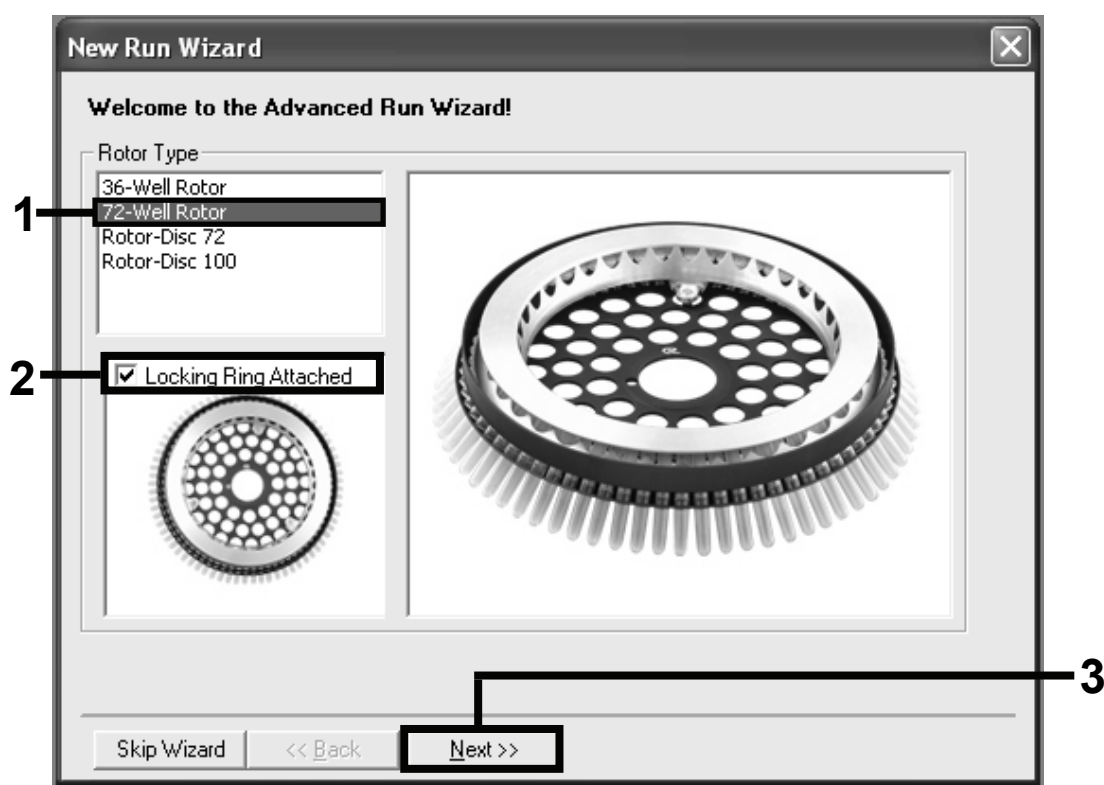

Figure 15. The “New Run Wizard” dialog box.
Setting the general assay parameters	Figures 15, 16, 17
10. Select **72-Well Rotor** as the rotor type. Check that the locking ring is attached. Check the **"Locking Ring Attached"** box and click **"Next"** (Figure 15).